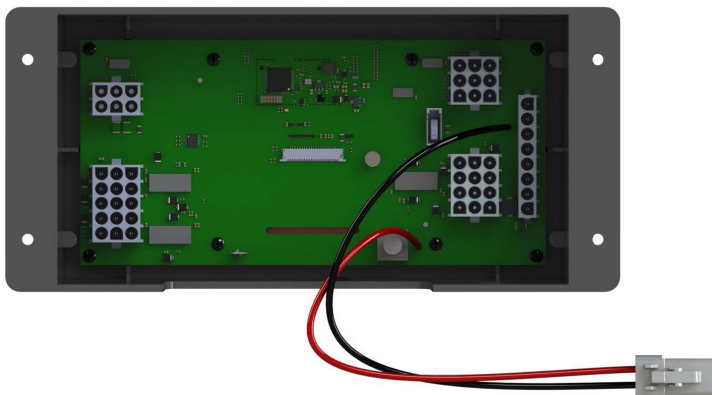

Figure 11
3. Remove the Reporter and ensure that all connections are secured, and that the wires are in good condition Reference Figure 11.